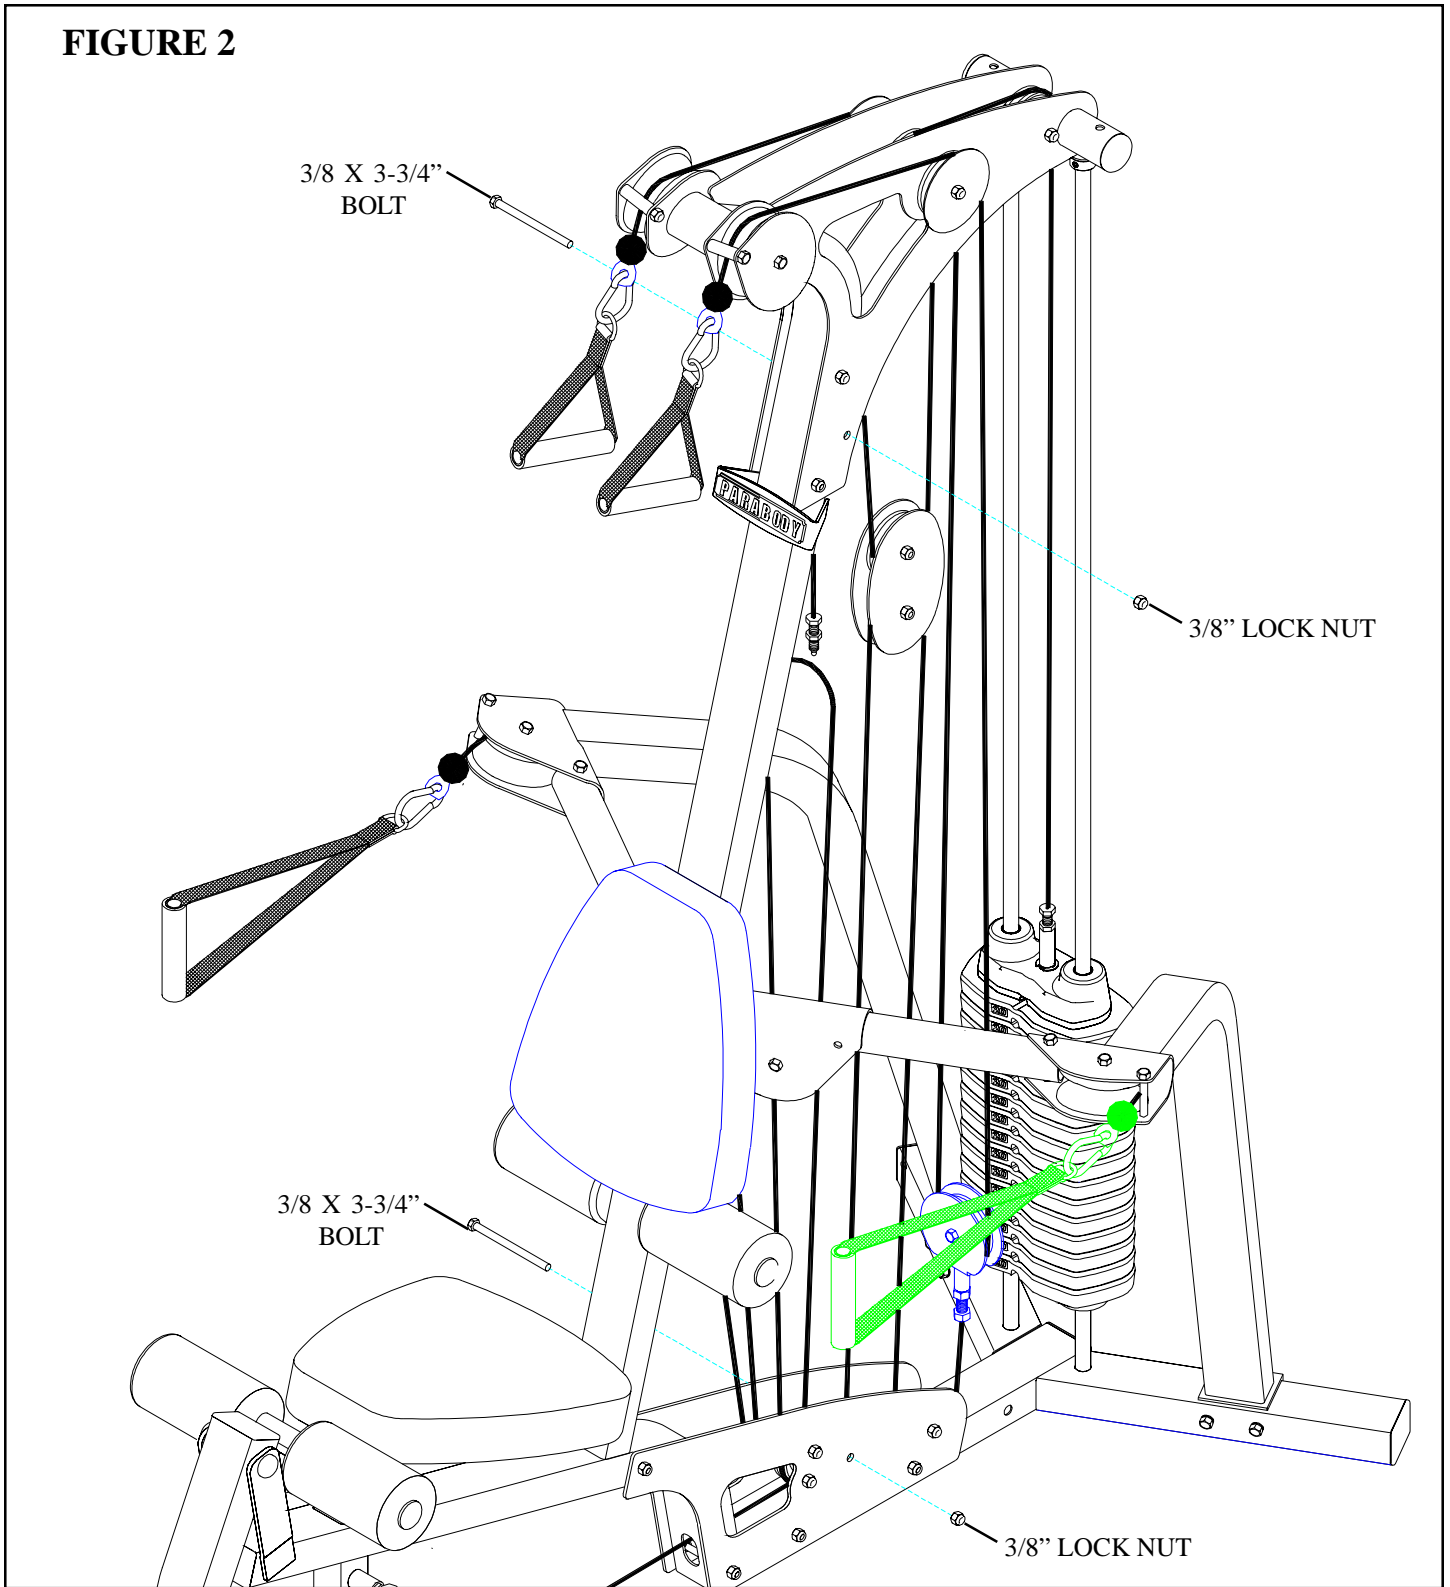

**FIGURE 1**
- Remove PULLEY and PULLEY BRACKET from the 777 GYM SYSTEM. Discard the PULLEY BRACKET. See FIGURE 1.